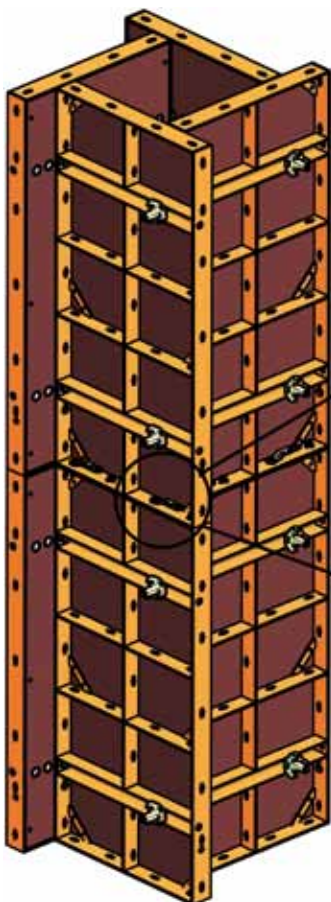

fig.11
2. Turn inwards the keybolt handle by 90° with a hammer blow. (fig. 11 + 12)